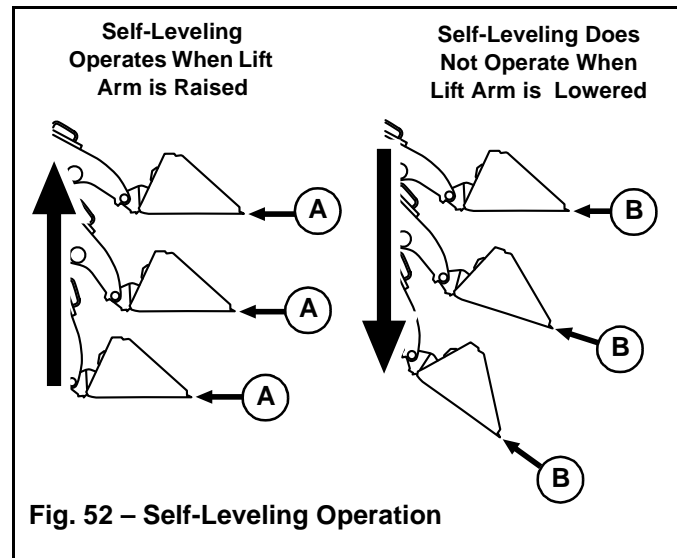

Fig. 52 – Self-Leveling Operation
Self-leveling automatically keeps the tilt angle of the attachment constant (B, Fig. 52) when the lift arm is raised (A). This feature is especially useful when using pallet forks.